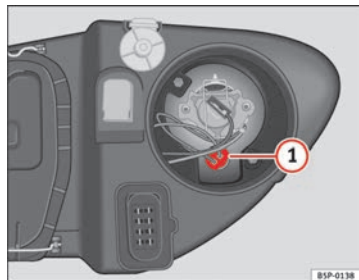

Fig. 191 Side lights
- Extract the lamp holder ⇒ fig. 191 **1** outwards.